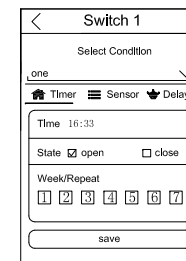

Fig.6
- b. Press Add task to access the interface as shown in Fig. 6. User can add timer, sensor control and delay off control. Press Save to save all the settings.